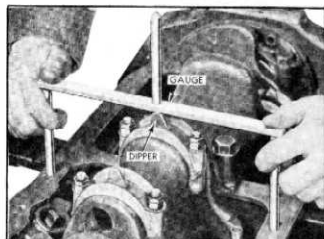

Fig. 25—Checking Connecting Rod Dipper Height
3. Slide the gauge over the dipper being checked (fig. 25). If the dipper is properly adjusted,